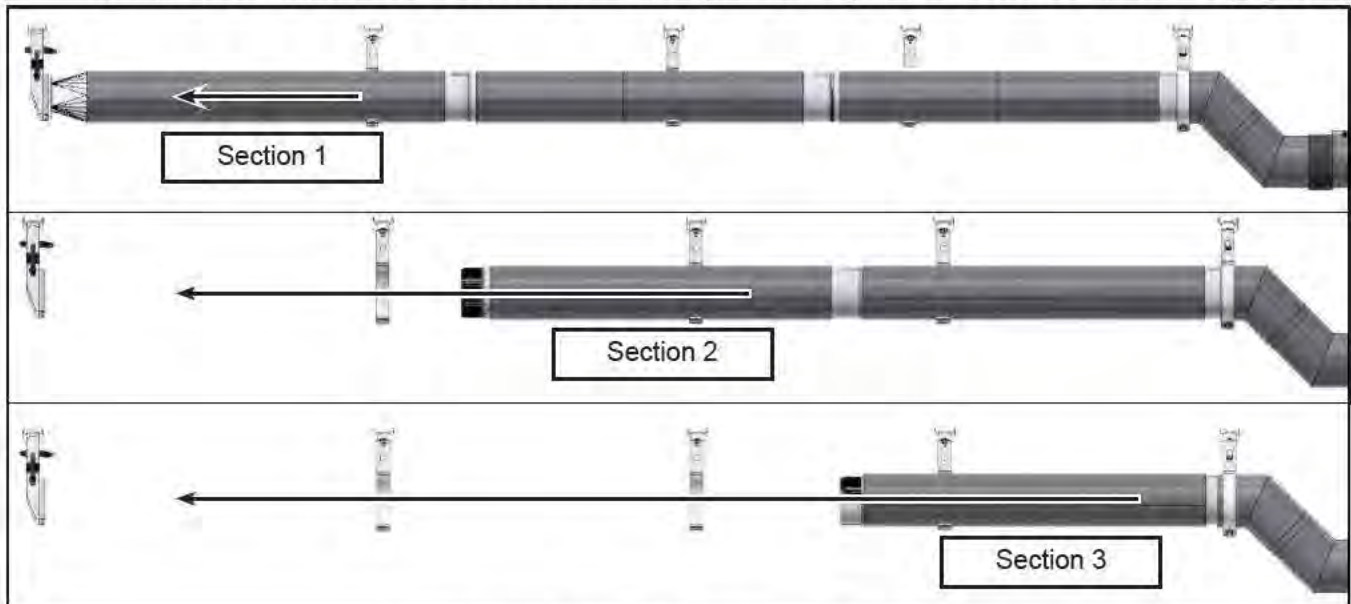

Figure 9 - Slide Out and Remove 3 Sections of Duct
- d. Slide out and remove the 3 sections of duct one by one starting with the one on the blower side (Figure 9).
- Slide back in the 3 sections of duct at their original position (ref. Figure 9).